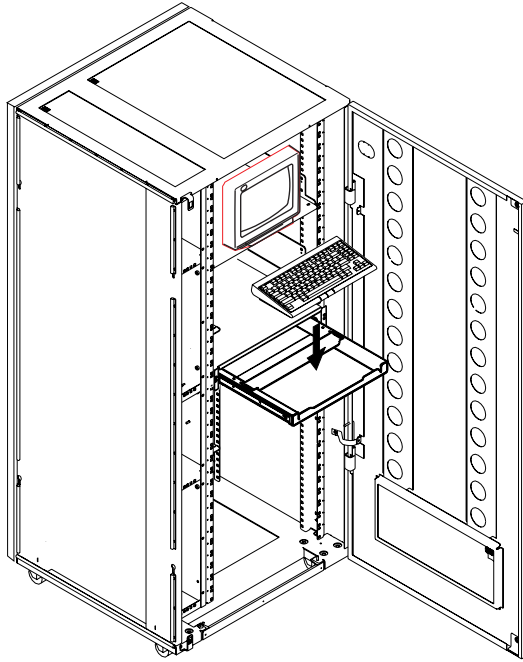

Figure 1-9. Installing the Keyboard
15. Open the drawer and install the keyboard as shown in Figure 1-9 on page 1-14. Then go to **step 17 on page 1-14**.